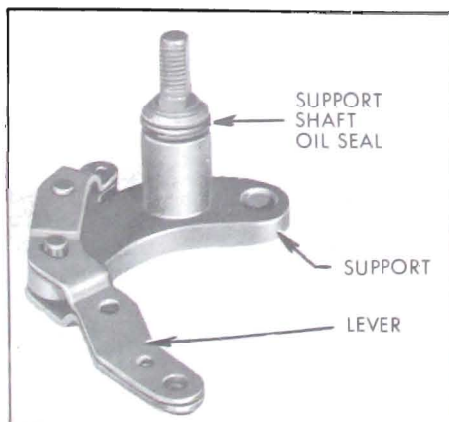

Figure 5-95—Detent Roller Lever and Support
assembly into rear bearing retainer and remove. Examine "O" ring on support shaft. If damaged or worn, replace it. See Figure 5-95.
4. Be sure detent support shaft oil seal is in good condition properly installed and lubricated. See Figure 5-95. Then install detent roller lever and support. Assemble linkage adjusting lever